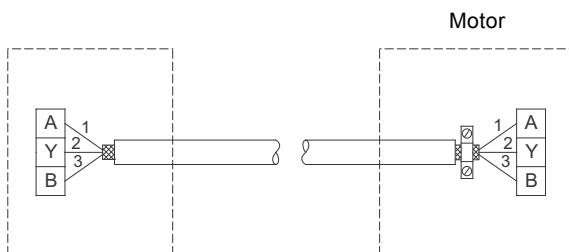

Fig. 15 Connection with screened 3-core cable
- If the unit has no cable clamp as shown in fig. 15, leave the screen unconnected at this end.